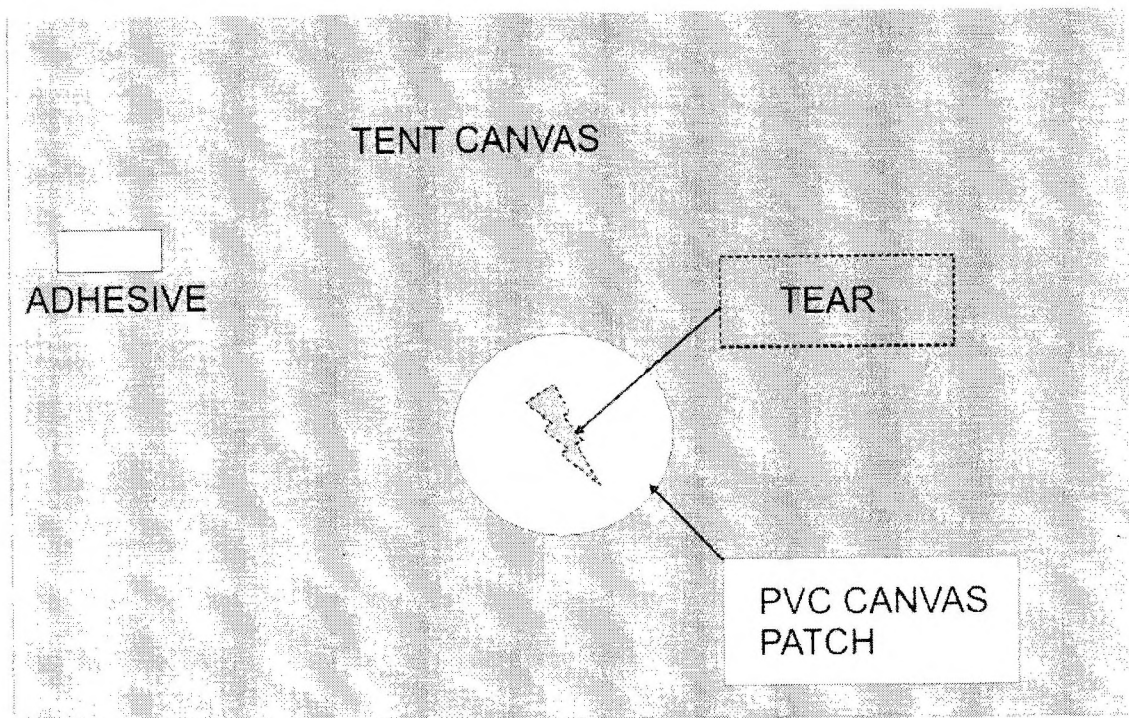

Figure 60: PVC Cover Repair, spreading of glue
69.1. Apply adhesive in a thin, consistent layer to both the patch and the area where the patch is to be applied to ensure positive bonding of the two elements. Apply adhesive from the middle of the patch outwards. Ensure adhesive is applied to the correct side of the patch so that the visible face matches the PVC cover colour Fig 60.